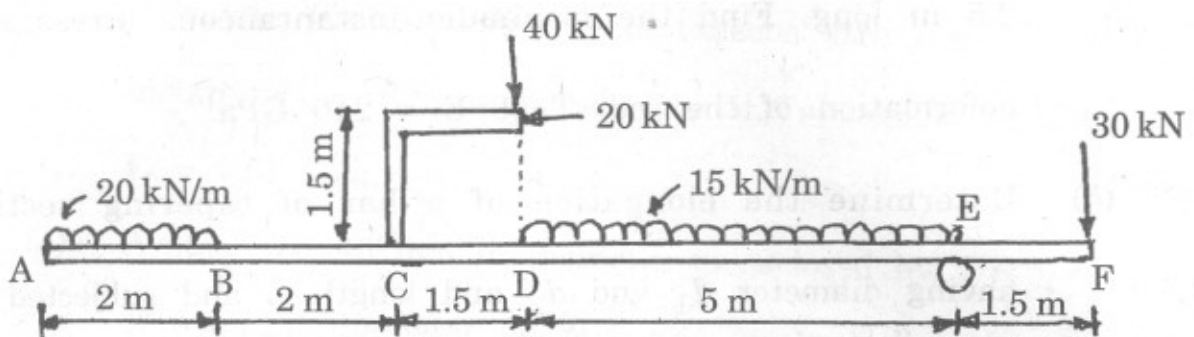

Fig. 2
- (b) A beam ABCDEF 12 m long and supported at A and E as shown in Fig. 2. Draw Shear Force and Bending Moment diagrams of the beam. Also find the position of point of contraflexure, if any. [10]